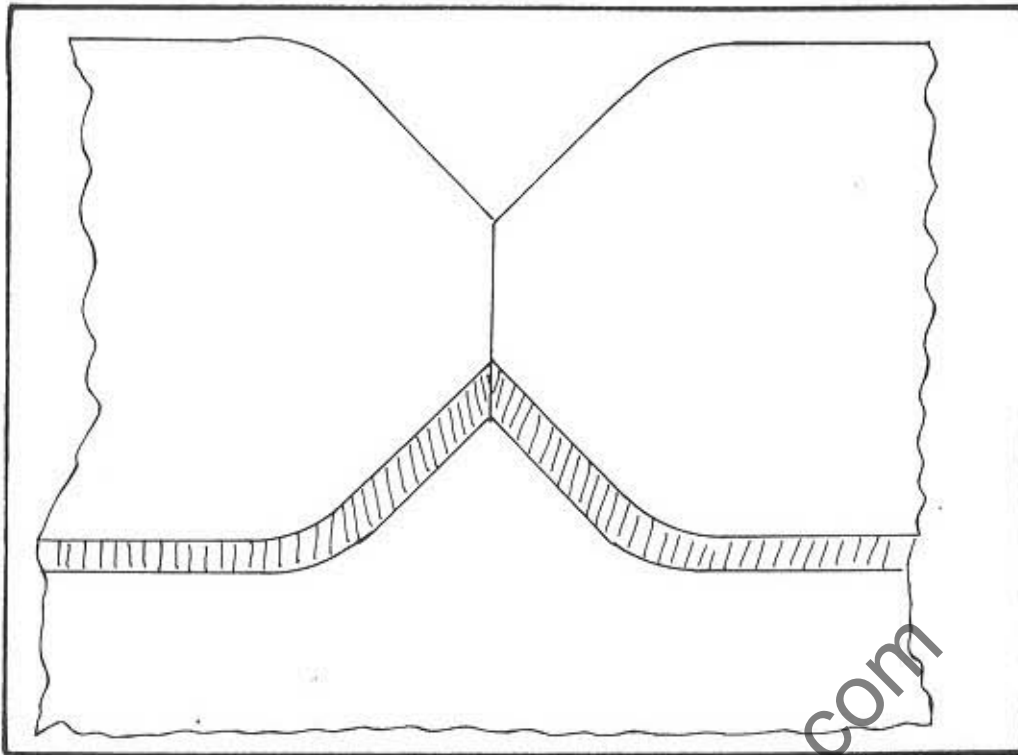
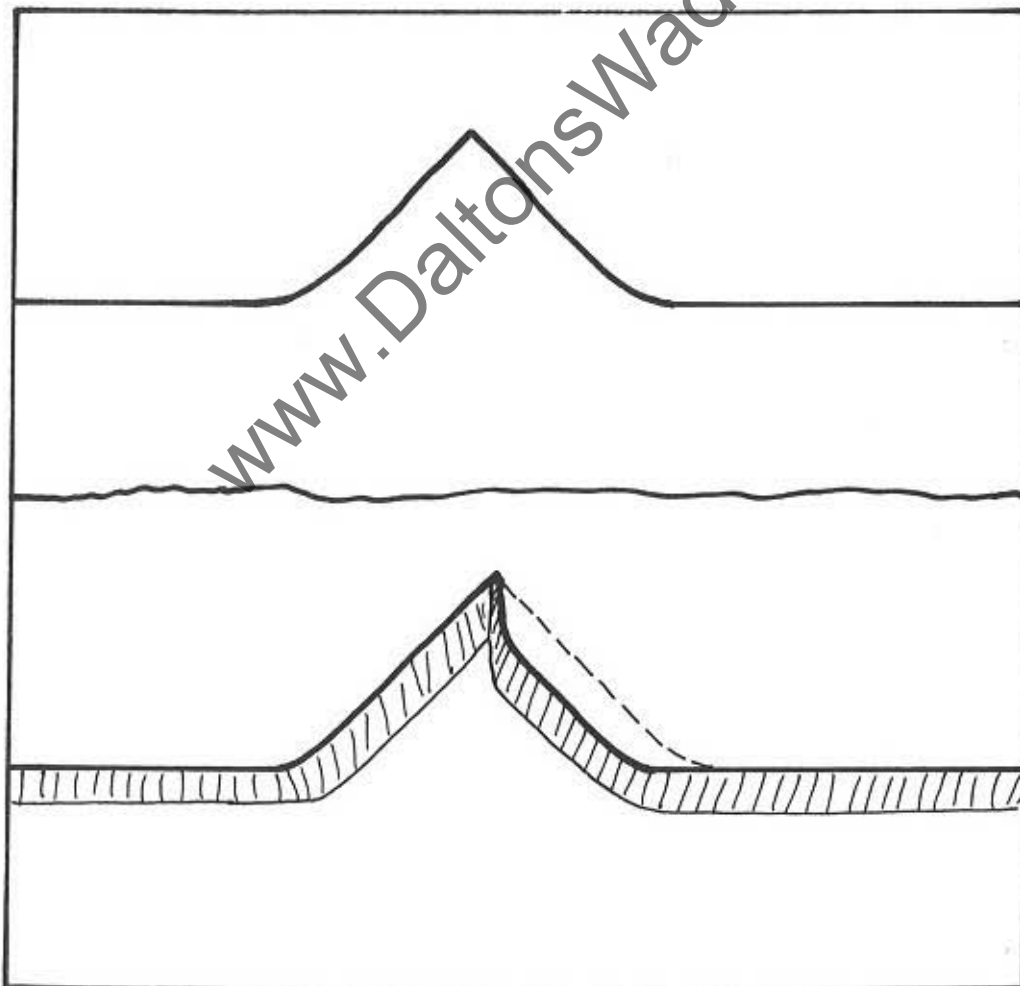

FIG. 32. Profiled knives using a conventional template and full section of stylus.
FIG. 33 Grinding relief on the non-cutting portion using side adjustment of the stylus in conjunction with the indicating collar.
- a) Profile the knife initially using the normal setting of the stylus, Fig. 32. Adjust the stylus sideways by one full turn, then grind the non-cutting sections of profile, stopping short of the vee point. The result will be as shown on Fig 33. Reset the stylus to the mark. (Use the indicator collar to allow exact resetting of the stylus).
- b) Profile the knife initially using a conventional template and normal setting of stylus, see Fig. 32. Replace the template with a general purpose one having a right-angle, cut-out, and set the radial face of this to align with the vee. Fit an end stop to limit the traverse movement to between the vee and short of the apex of the bead. By use of this template (and by adjusting the stylus as required), the knife can be accurately relieved on the non-cutting section by grinding-out a right angle, Fig. 34. As the machine setting is totally upset by this process it is best undertaken after fully profiling the cutterhead. The right angled grind is not critical, however, and need be repeated only infrequently, perhaps after every 3rd or 4th regrind. Where beads are narrow, use an angled wheel.